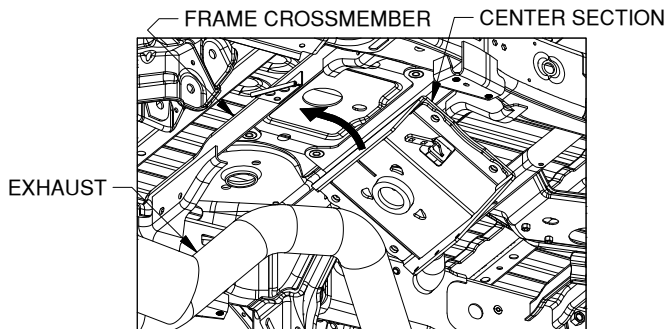

Figure B5: Looking up at the bed from forward of driver side tire.
3. **Install the center section.** With the latch pin mechanism on the drivers side, raise the center section into place as shown, see figure B5. In order to clear structures under the truck bed, the center will have to be lifted into place on an angle over the exhaust, then positioned directly under the frame cross member so that the raised portion of the center can be pushed straight up through the hole in the frame cross member, and through the hole in the plastic spacer block. Having assistance in the bed to guide the top of the center section is recommended. Line the 4 holes in the center section up with the frame holes and the holes in the fastener handles. Thread a 5/8 flange head bolt into each hole.